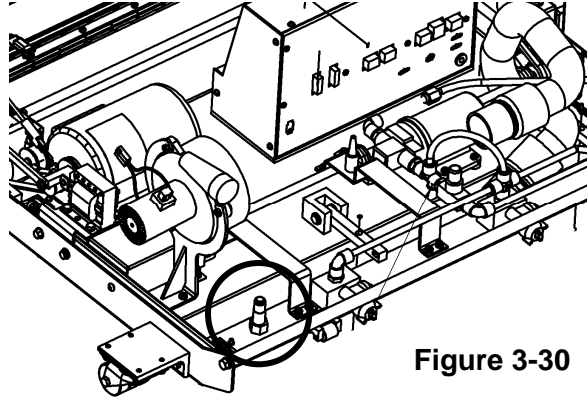

Figure 3-30
5. From within the machine, locate the sensor on the front of the base plate near the waste tank, as shown in Figure 3-30.